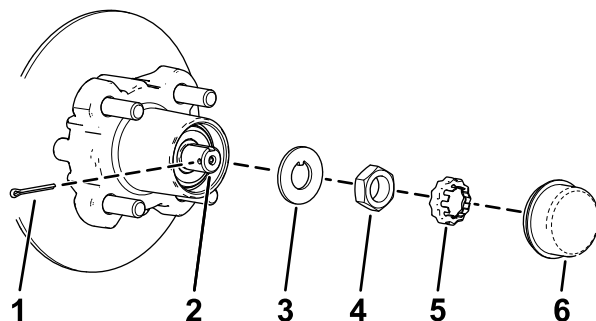
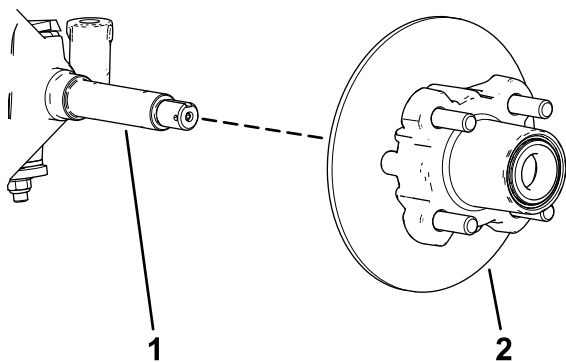

Figure 39
Figure 40
4. Remove the dust cap from the hub (Figure 39).
5. Remove the cotter pin and nut retainer from the spindle and spindle nut (Figure 39).
6. Remove the spindle nut from the spindle, and separate the hub and rotor assembly from the spindle (Figure 39 and Figure 40).